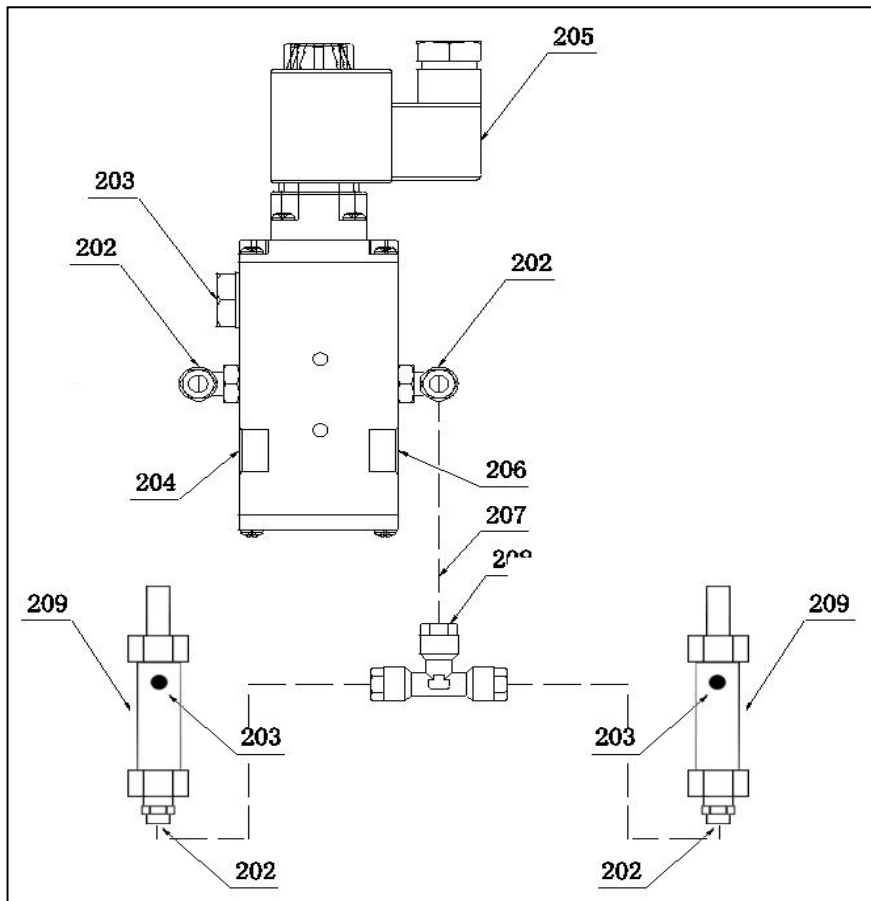

Fig 17 (Cylinder Connection)
- Lead the $\Phi 6 \times 5$ compressed air pipe out from the air outlet of the pneumatic solenoid valve of main lift and then connect it to the uplifted-pawl air valve of the main lift (Fig. 17) according to the Pneumatic Circuit Connection Diagram.